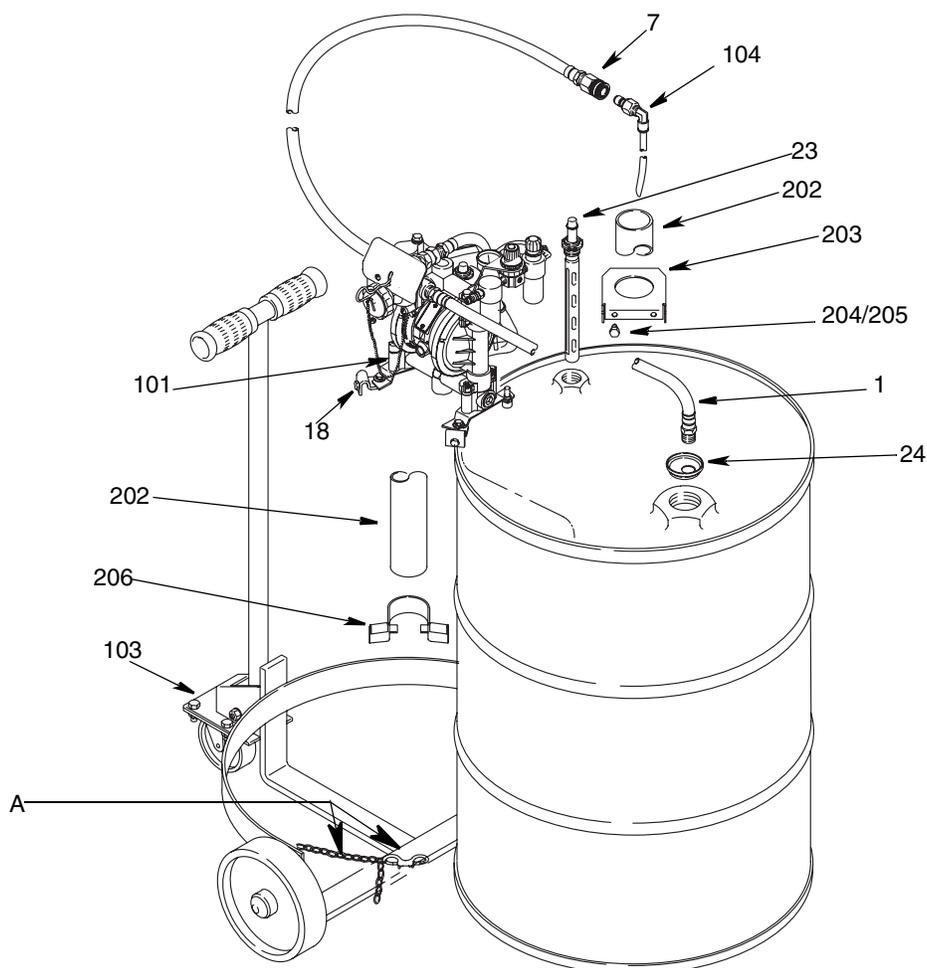
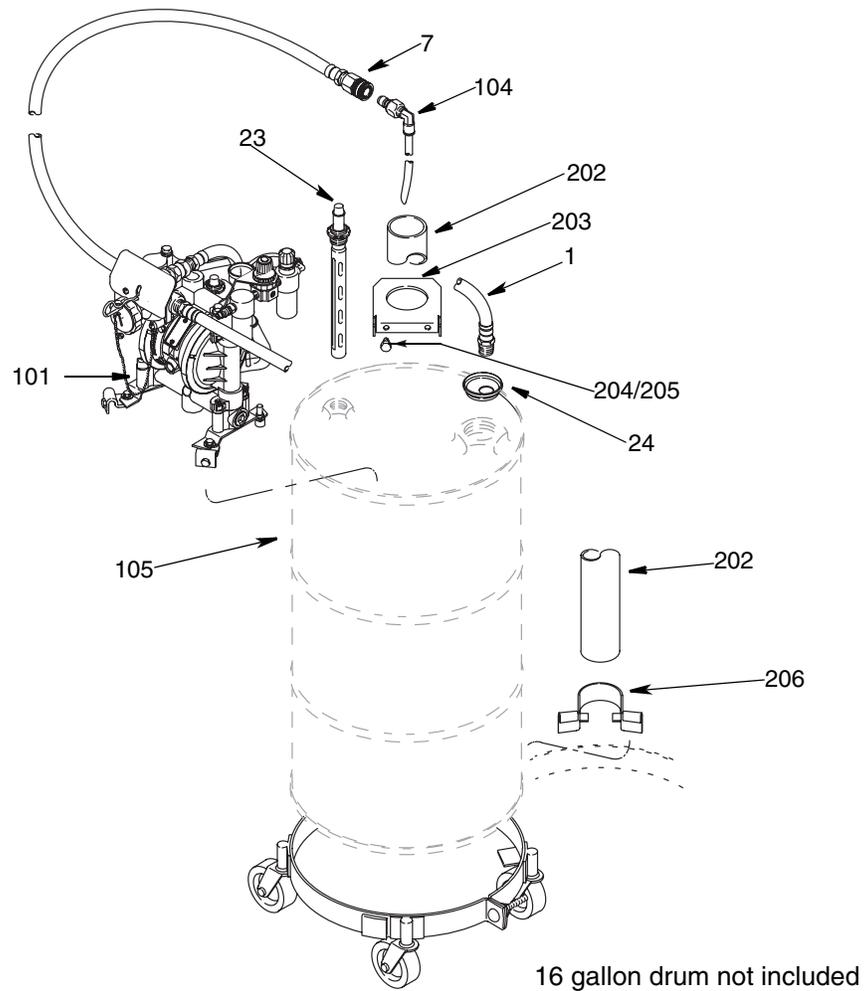

FIG. 2: 55 Gallon Unit
FIG. 3
2. Put the drum on the dolly or truck. The truck has a chain and clip (A) to secure the drum.
3. Position the pump between the bung hole and vent hole of the drum. (FIG. 2 and FIG. 3)
4. Loosen the top screw (14) of each pump clamp (18) and reposition the clamps as needed to fit the rim of the drum.
5. Tighten the screws (17) to secure the pump to the rim of the drum.
6. Install the wand storage tube (supplied). Place the holder (206) on the lip of the dolly or truck.
7. Place the tube (202) in the holder and slide the bracket (203) over the tube.
8. Align the bracket (203) to the holder (206) and secure the bracket to the rim of the drum.
9. Remove the drum's vent hole cover and install the vented fluid gauge (23).
10. Remove the drum's bung hole cover and install the plug (24).
11. Put the 50" drain hose (1) into the drum through the bung hole.
12. Connect a wand (104) to the quick coupler (7). Store the wand in the storage tube (202) until needed.